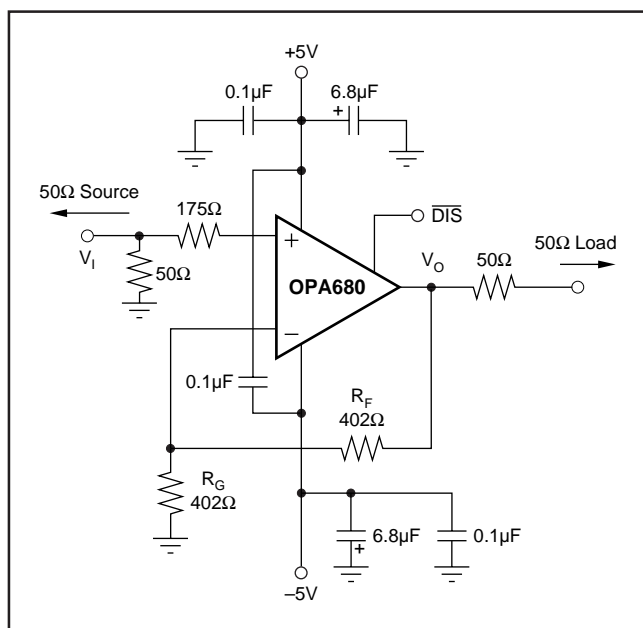
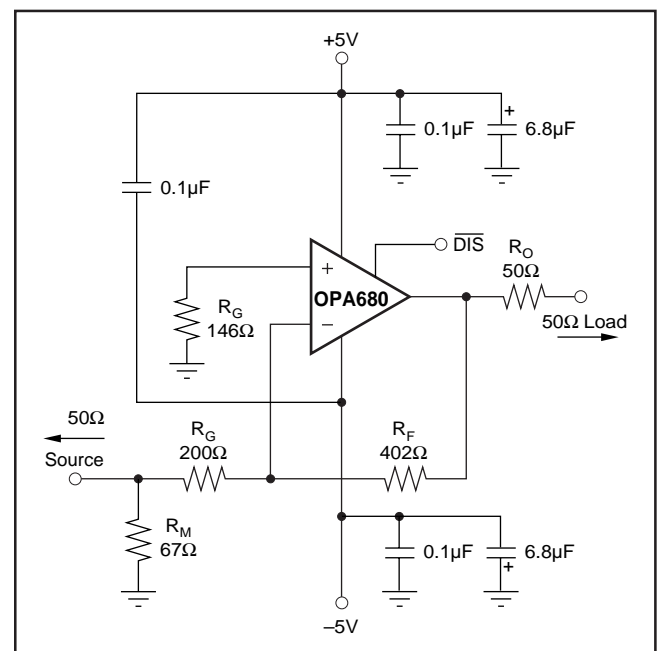

FIGURE 1. DC-Coupled, $G = +2$, Bipolar Supply, Specification and Test Circuit.
FIGURE 8. Gain of -2 Example Circuit.
At $T_A = +25^\circ C$, $G = +2$, $R_F = 402\Omega$, and $R_L = 100\Omega$, unless otherwise noted. See Figure 1.
Figure 1 shows the DC-coupled, gain of +2, dual power supply circuit configuration used as the basis of the $\pm 5\text{V}$ Specifications and Typical Performance Curves. For test purposes, the input impedance is set to 50 Ω with a resistor to ground and the output impedance is set to 50 Ω with a series output resistor. Voltage swings reported in the specifications are taken directly at the input and output pins, while output powers (dBm) are at the matched 50 Ω load. For the circuit of Figure 1, the total effective load will be 100 Ω || 804 Ω . The disable control line is typically left open to guarantee normal amplifier operation. Two optional components are included in Figure 1. An additional resistor (175 Ω) is included in series with the non-inverting input. Combined with the 25 Ω DC source resistance looking back towards the signal generator, this gives an input bias current cancelling resistance that
A good rule of thumb is to target the parallel combination of R_F and R_G (Figure 1) to be less than approximately 300Ω . The combined impedance $R_F \parallel R_G$ interacts with the inverting input capacitance, placing an additional pole in the feedback network and thus, a zero in the forward response. Assuming a $2pF$ total parasitic on the inverting node, holding $R_F \parallel R_G < 300\Omega$ will keep this pole above $250MHz$. By itself, this constraint implies that the feedback resistor R_F can increase to several $k\Omega$ at high gains. This is acceptable as long as the pole formed by R_F and any parasitic capacitance appearing in parallel is kept out of the frequency range of interest.
Voltage feedback op amps exhibit decreasing closed-loop bandwidth as the signal gain is increased. In theory, this relationship is described by the Gain Bandwidth Product (GBP) shown in the specifications. Ideally, dividing GBP by the non-inverting signal gain (also called the Noise Gain, or NG) will predict the closed-loop bandwidth. In practice, this only holds true when the phase margin approaches 90° , as it does in high gain configurations. At low gains (increased feedback factors), most amplifiers will exhibit a more complex response with lower phase margin. The OPA680 is compensated to give a slightly peaked response in a non-inverting gain of 2 (Figure 1). This results in a typical gain of +2 bandwidth of $220MHz$, far exceeding that predicted by dividing the $300MHz$ GBP by 2. Increasing the gain will cause the phase margin to approach 90° and the bandwidth to more closely approach the predicted value of (GBP/NG) . At a gain of +10, the $30MHz$ bandwidth shown in the Typical Specifications agrees with that predicted using the simple formula and the typical GBP of $300MHz$.
Frequency response in a gain of +2 may be modified to achieve exceptional flatness simply by increasing the noise gain to 2.5. One way to do this, without affecting the +2 signal gain, is to add an 804Ω resistor across the two inputs in the circuit of Figure 1. A similar technique may be used
Since the OPA680 is a general purpose, wideband voltage feedback op amp, all of the familiar op amp application circuits are available to the designer. Inverting operation is one of the more common requirements and offers several performance benefits. Figure 8 shows a typical inverting configuration where the I/O impedances and signal gain from Figure 1 are retained in an inverting circuit configuration.
amplifier output. For an inverting gain of 2, setting R_G to 50Ω for input matching eliminates the need for R_M but requires a 100Ω feedback resistor. This has the interesting advantage that the noise gain becomes equal to 2 for a 50Ω source impedance—the same as the non-inverting circuits considered above. However, the amplifier output will now see the 100Ω feedback resistor in parallel with the external load. In general, the feedback resistor should be limited to the 200Ω to $1.5k\Omega$ range. In this case, it is preferable to increase both the R_F and R_G values as shown in Figure 8, and then achieve the input matching impedance with a third resistor (R_M) to ground. The total input impedance becomes the parallel combination of R_G and R_M .
The second major consideration, touched on in the previous paragraph, is that the signal source impedance becomes part of the noise gain equation and hence influences the bandwidth. For the example in Figure 8, the R_M value combines in parallel with the external 50Ω source impedance, yielding an effective driving impedance of $50\Omega \parallel 67\Omega = 28.6\Omega$. This impedance is added in series with R_G for calculating the noise gain (NG). The resultant NG is 2.8 for Figure 8, as opposed to only 2 if R_M could be eliminated as discussed above. The bandwidth will therefore be slightly lower for the gain of -2 circuit of Figure 8 than for the gain of $+2$ circuit of Figure 1.
The third important consideration in inverting amplifier design is setting the bias current cancellation resistor on the non-inverting input (R_B). If this resistor is set equal to the total DC resistance looking out of the inverting node, the output DC error, due to the input bias currents, will be reduced to (Input Offset Current) $\cdot R_F$. If the 50Ω source impedance is DC-coupled in Figure 8, the total resistance to ground on the inverting input will be 228Ω . Combining this in parallel with the feedback resistor gives the $R_B = 146\Omega$ used in this example. To reduce the additional high frequency noise introduced by this resistor, it is sometimes bypassed with a capacitor. As long as $R_B < 350\Omega$, the capacitor is not required since the total noise contribution of all other terms will be less than that of the op amp's input noise voltage. As a minimum, the OPA680 requires an R_B value of 50Ω to damp out parasitic-induced peaking—a direct short to ground on the non-inverting input runs the risk of a very high frequency instability in the input stage.
The OPA680 provides good distortion performance into a 100Ω load on $\pm 5V$ supplies. Relative to alternative solutions, it provides exceptional performance into lighter loads and/or operating on a single +5V supply. Generally, until the fundamental signal reaches very high frequency or power levels, the 2nd harmonic will dominate the distortion with a negligible 3rd harmonic component. Focusing then on the 2nd harmonic, increasing the load impedance improves distortion directly. Remember that the total load includes the feedback network; in the non-inverting configuration (Figure 1) this is sum of $R_F + R_G$, while in the inverting configuration, it is just R_F . Also, providing an additional supply decoupling capacitor (0.1μF) between the supply pins (for bipolar operation) improves the 2nd-order distortion slightly (3dB to 6dB).
Evaluating these two equations for the OPA680 circuit and component values shown in Figure 1 will give a total output spot noise voltage of $11\text{nV}/\sqrt{\text{Hz}}$ and a total equivalent input spot noise voltage of $5.5\text{nV}/\sqrt{\text{Hz}}$. This is including the noise added by the bias current cancellation resistor (175Ω) on the non-inverting input. This total input-referred spot noise voltage is only slightly higher than the $4.8\text{nV}/\sqrt{\text{Hz}}$ specification for the op amp voltage noise alone. This will be the case
as long as the impedances appearing at each op amp input are limited to the previously recommend maximum value of 300Ω . Keeping both $(R_F \parallel R_G)$ and the non-inverting input source impedance less than 300Ω will satisfy both noise and frequency response flatness considerations. Since the resistor-induced noise is relatively negligible, additional capacitive decoupling across the bias current cancellation resistor (R_B) for the inverting op amp configuration of Figure 8 is not required.
The balanced input stage of a wideband voltage feedback op amp allows good output DC accuracy in a wide variety of applications. The power supply current trim for the OPA680 gives even tighter control than comparable products. Although the high speed input stage does require relatively high input bias current (typically $14\mu\text{A}$ out of each input terminal), the close matching between them may be used to reduce the output DC error caused by this current. The total output offset voltage may be considerably reduced by matching the DC source resistances appearing at the two inputs. This reduces the output DC error due to the input bias currents to the offset current times the feedback resistor. Evaluating the configuration of Figure 1, using worst-case $+25^\circ\text{C}$ input offset voltage and current specifications, gives a worst-case output offset voltage equal to: – ($NG =$ non-inverting signal gain)